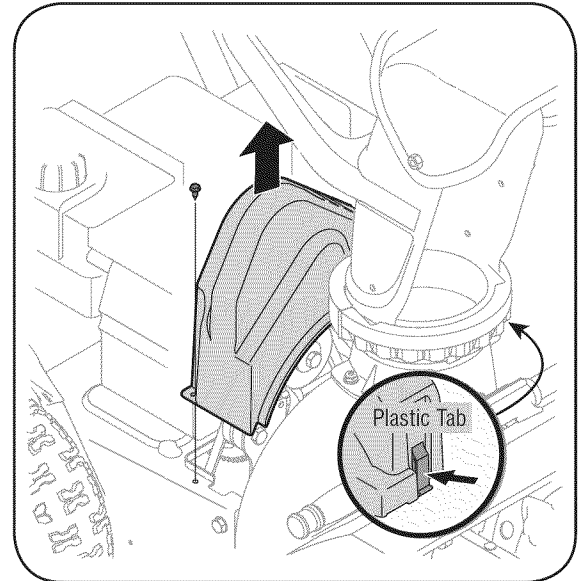

Figure 13
1. Remove the plastic belt cover on the front of the engine by removing the self-tapping screw and pressing the plastic tabs to release the belt cover. See Figure 13.
2. Remove the belt cover screw using a 5/16 socket with extension and slightly raise belt cover. You must also unclip the plastic tab on the other side to raise this up. Do not attempt to remove the belt cover from the unit at this time. See Figure 13.